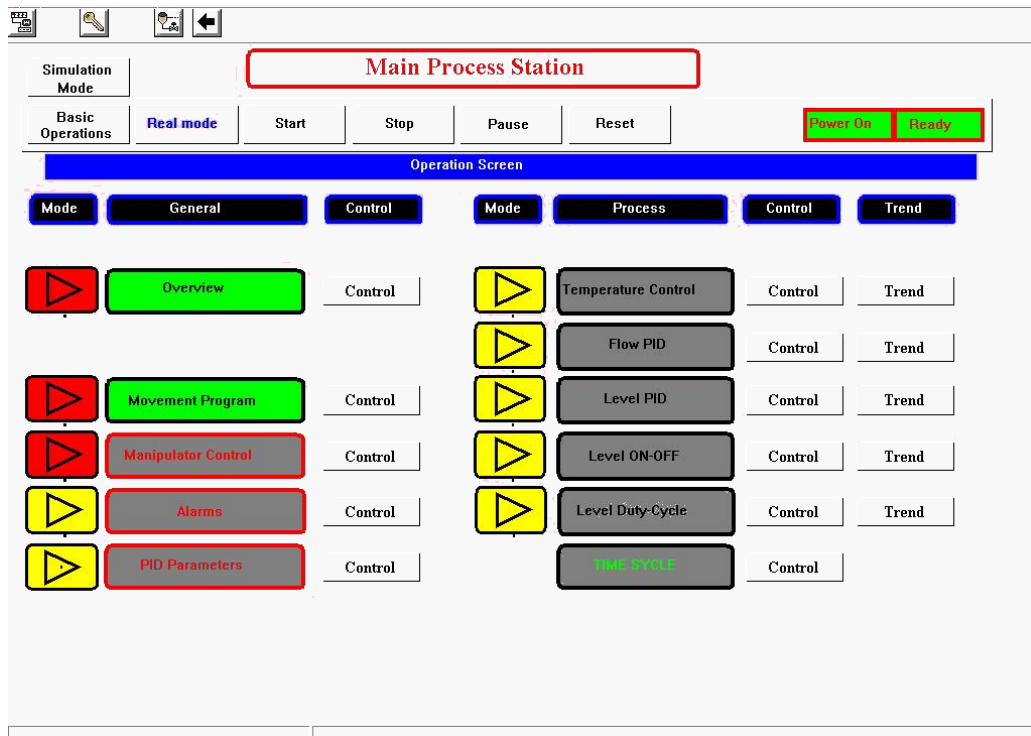

Figure 167: Main Process Station
- 8. Click **Restart**. The Main Process Station window (shown in Figure 167: Main Process Station) is displayed in the background. Click **Close** to close the Vuniq Application Manager window.
3. Select **Operator Screens**. The Main Process Station window is displayed, as shown in, Figure 167: Main Process Station.
8. Click the  icon to return to the Main Process Station window (shown in Figure 167: Main Process Station).